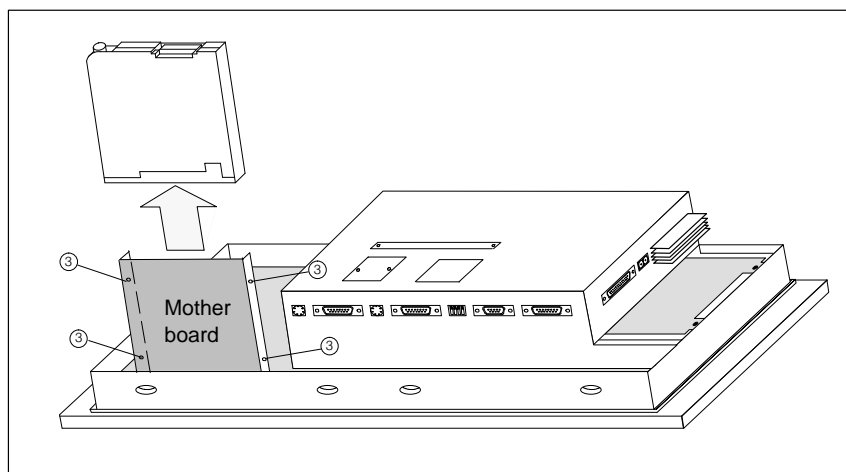

Figure 6-7 Undo screws on mother board side Fins and withdraw floppy disk drive
4. Undo four screws ③ on the side fins of the mother board (refer to Figure 6-7).